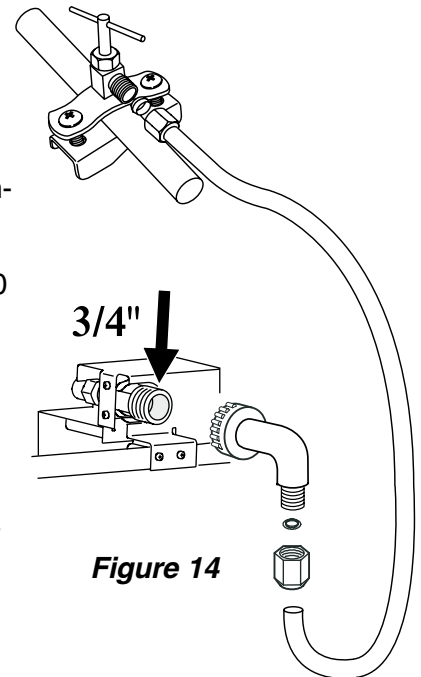

Figure 14
2. The 1/4" OD copper tubing between the shut-off valve and solenoid valve has a **Metric R3/4 male connector (Figure 14)**. Make sure there is approximately 30" (70 cm) of excess tubing behind the unit for easy connection.